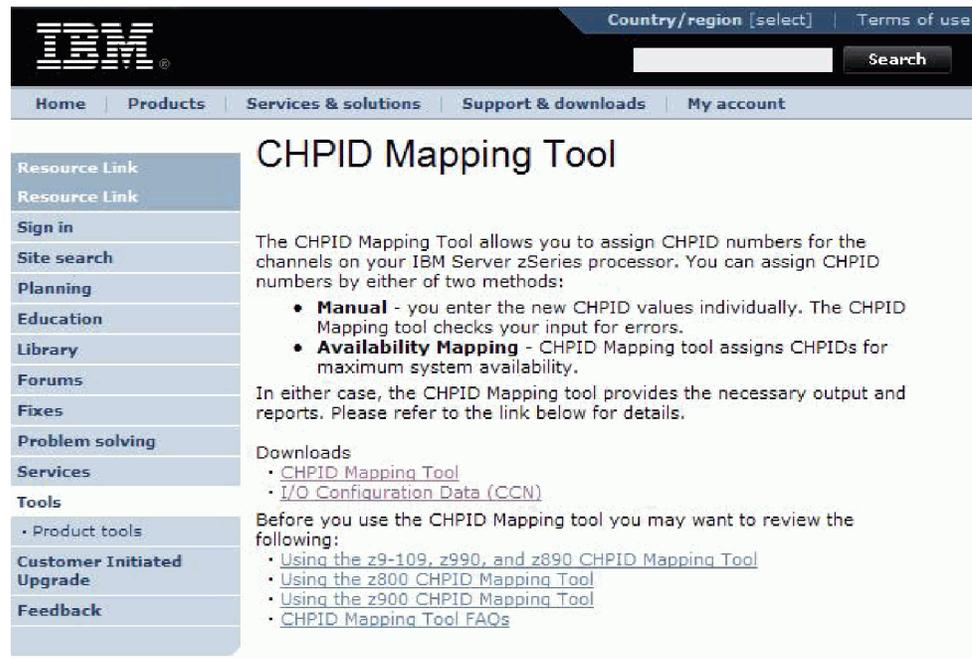

Figure 1. Starting Point: The CHPID Mapping Tool Window
3. In the list of tools in the next (Tools) window, click **CHPID Mapping Tool**. This displays the following window (Figure 1):